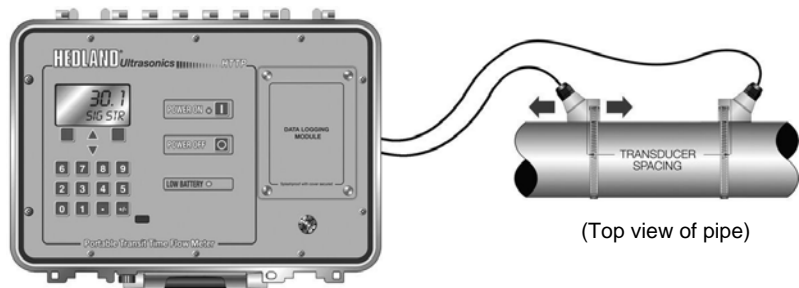

Figure 2.4 Transducer Position
3. Place the downstream transducer on pipe at the calculated transducer spacing. See **Figure 2.4**. Using firm hand pressure, slowly move the transducer towards and away from the upstream transducer while observing Signal Strength. Clamp the transducer at the position where the highest Signal Strength is observed. A Signal Strength between 3.0 and 95.0 percent is acceptable.